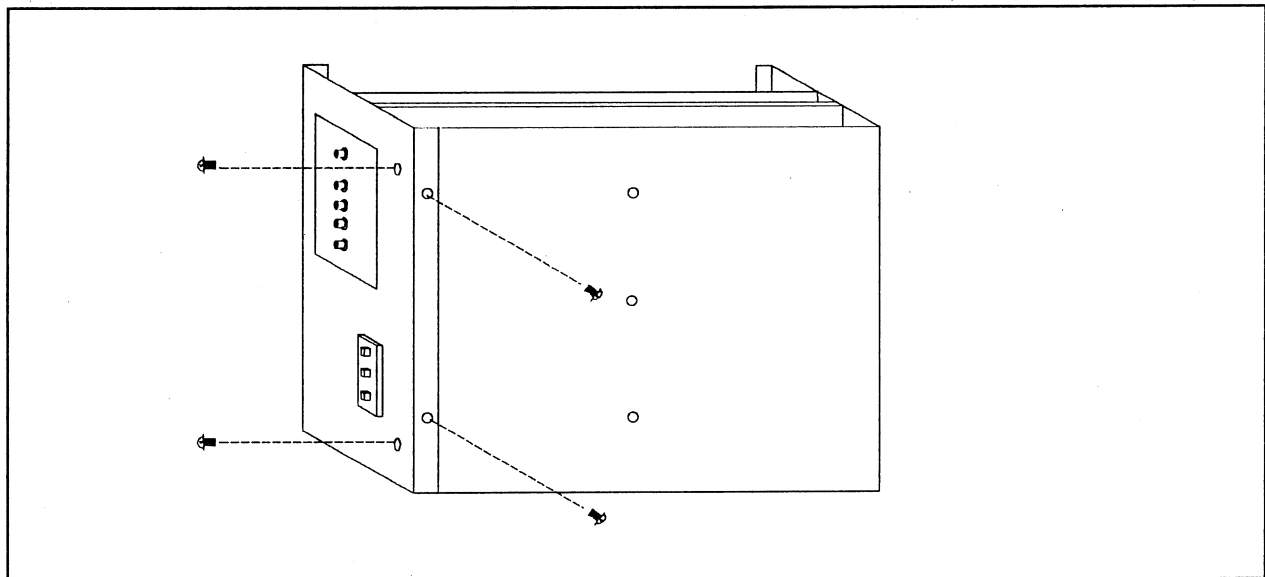

Figure 2-5. Removing the Front Panel Screws
- 3 Remove the four screws that hold the front panel. See Figure 2-5.